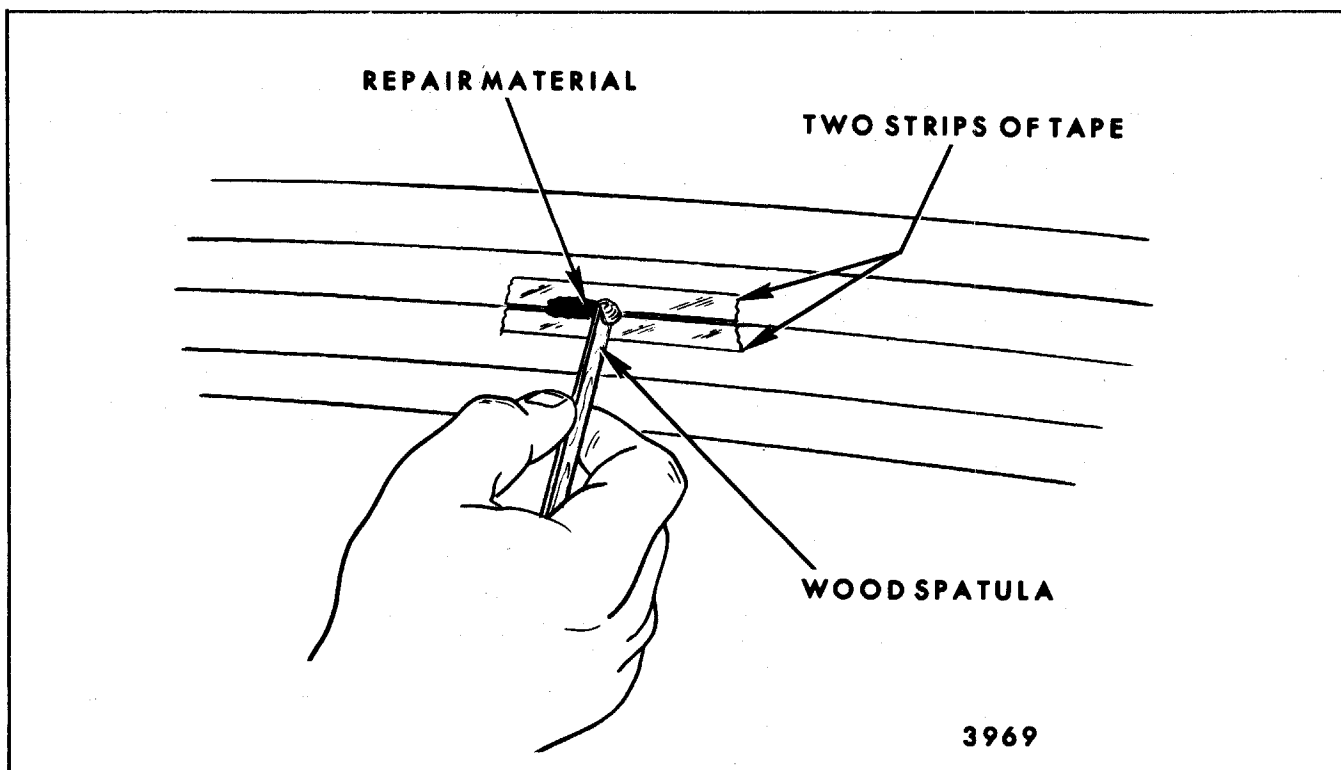

Fig. 10-126-Applying Repair Material to Broken Grid
7. With the glass at room temperature, apply the repair material with the small wooden mixing spatula, slightly overlapping the existing grid line either side of the break (Fig. 10-126).